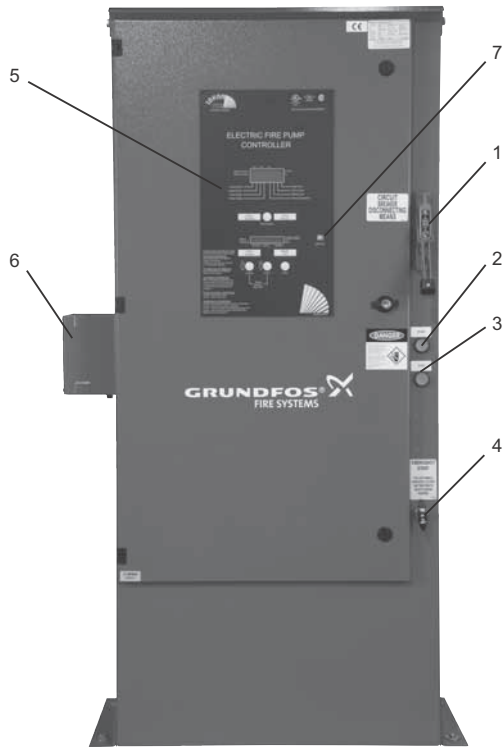

Fig. 3 Control cabinet
The controller is placed in a control cabinet mounted on the base frame (compact unit) or delivered separately for wall- or floor-mounting (flex unit). The controller is operated by means of the control panel in the cabinet door. See fig. 3. The control cabinet supplies the motor with the electricity required for starting and operating the motor.
The operating elements are placed on the cabinet door and control panel. See fig. 3.
Circuit breaker A1 (fig. 3, pos. 1)
[START] A2 (fig. 3, pos. 2)
[STOP] A3 (fig. 3, pos. 3)
Emergency start handle A4 (fig. 3, pos. 4)